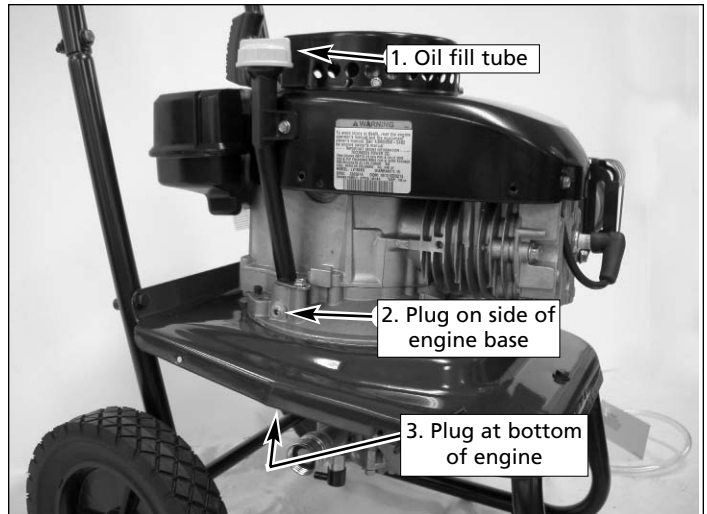

Figure 19 - Oil Drain Locations
2. Locate, and if accessible, remove the engine oil drain plug (if the engine is equipped with an oil drain plug, the drain plug is located in at least one of the locations shown in Figure 19). If the engine oil drain plug is not accessible or if the engine is not equipped with an oil drain plug, tip the unit on its side to drain the oil out of the oil fill tube (See Figure 19).